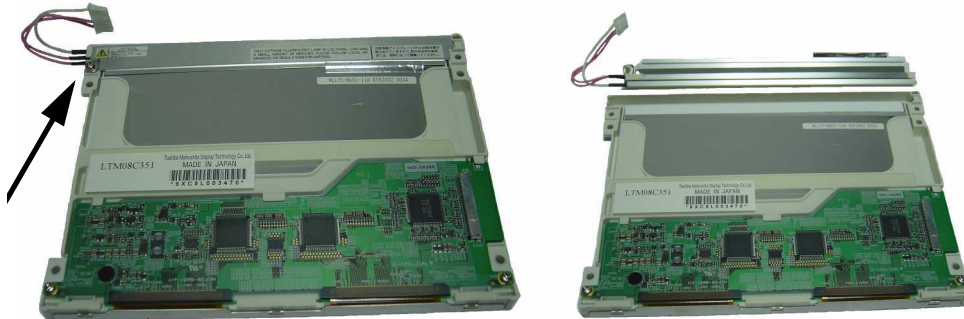

Figure 4-26. Separating Backlight from LCD
5. To separate the backlight from the LCD, remove the screw from the backlight metal retaining plate at the end with the power cable. Refer to Figure 4-26 to see the location of the screw and the foil tape that hold the backlight to the LCD display. Figure 4-26 is used to provide an unobstructed view. Lift the edge of the foil tape from the LCD and gently lift the backlight assembly away from the LCD display.